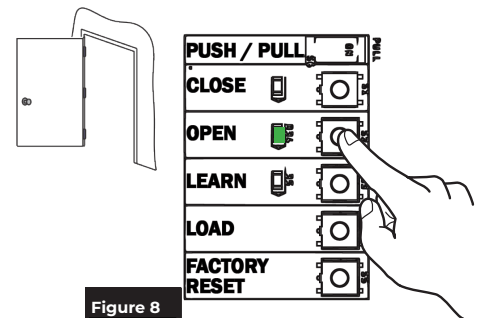

Figure 8
- The flashing green OPEN LED will turn solid. (Figure 8)